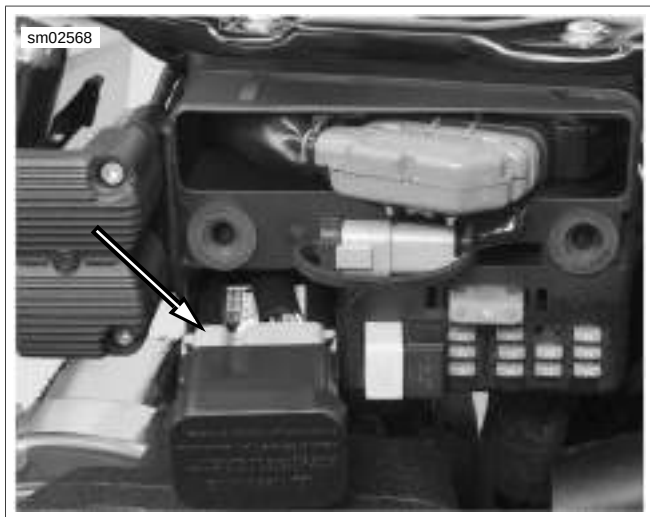

Figure 7-39. HFSM Antenna Connector [208]
6. See Figure 7-39. On models with HFSM, disconnect HFSM antenna connector.
3. See Figure 7-39. On models with an HFSM, connect HFSM antenna connector.